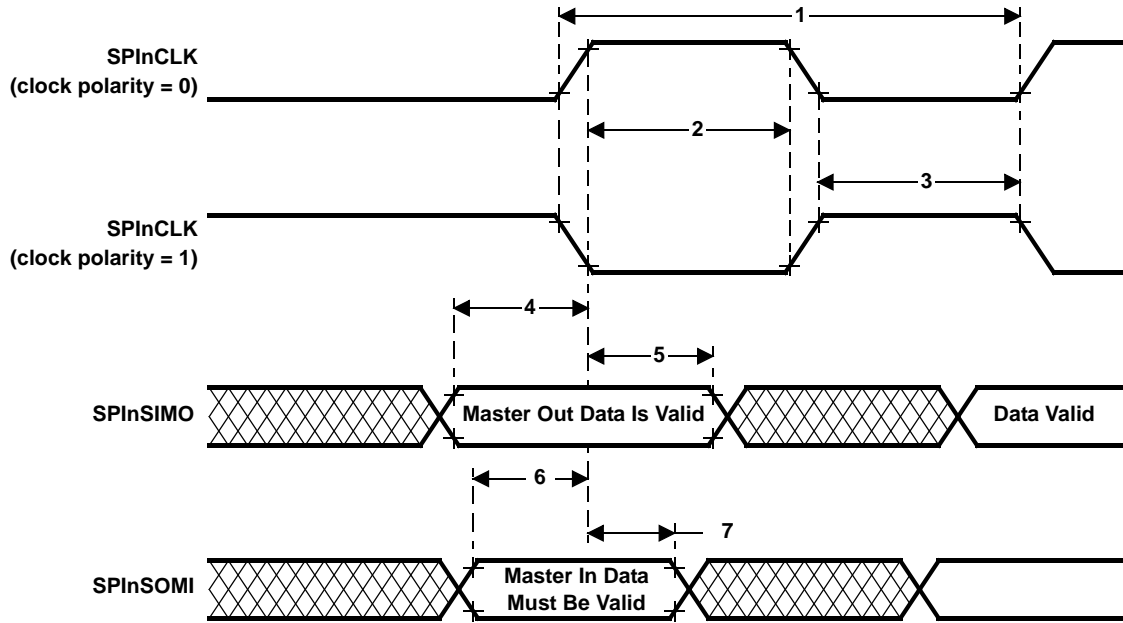

Figure 13. SPIn Master Mode External Timing (CLOCK PHASE = 1)
**SPIn master mode external timing parameters (CLOCK PHASE = 1, SPInCLK = output, SPInSIMO = output, and SPInSOMI = input)(1)(2)(3) (see Figure 13)**